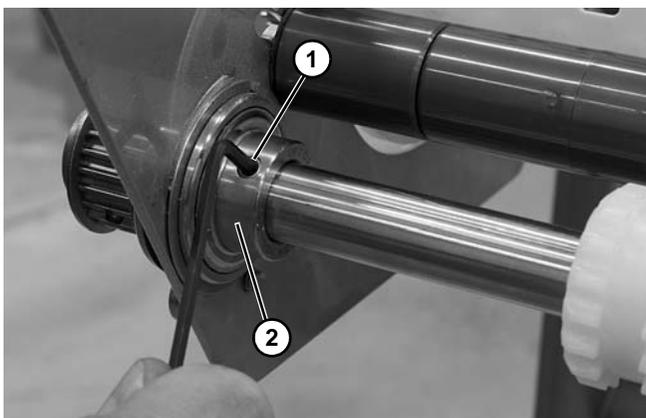

Figure 64
13. Loosen two set screws (**Figure 64, item 1**) on bearing (**Figure 64, item 2**) on both sides of the power transfer.